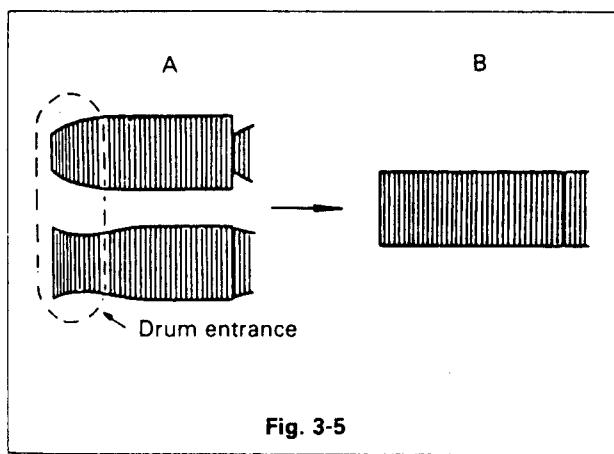

Fig. 3-5
- (1) Adjust the tracking control until maximum amplitude of the FM waveform is obtained while turning the tracking control knob.
- (2) If the waveforms as shown in Figure 3-5 (A) are observed, adjust the supply guide roller to obtain the flat waveform as shown in B.